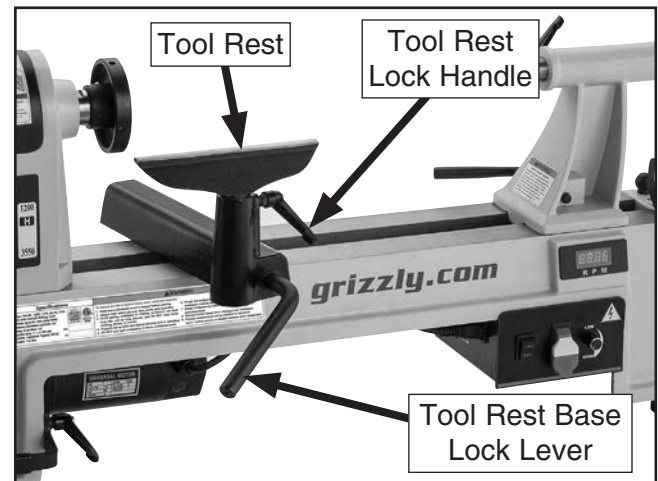

Figure 15. Tool rest controls.
1. Loosen tool rest base lock lever and move tool rest assembly to desired position on lathe bed, as shown in **Figure 15**.
3. Loosen tool rest lock handle (see **Figure 15**).